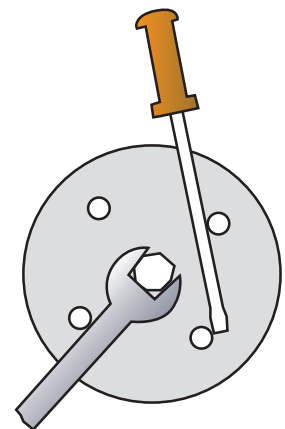

Fig. 2 Removing 9/16" Hex Head Screw
4. Loosen 9/16" hex head screw in center of flange by inserting two 5/16" socket head screws in adjacent holes in flange holding a large screwdriver between these screws to keep the flange from turning. (see **Fig. 2**)